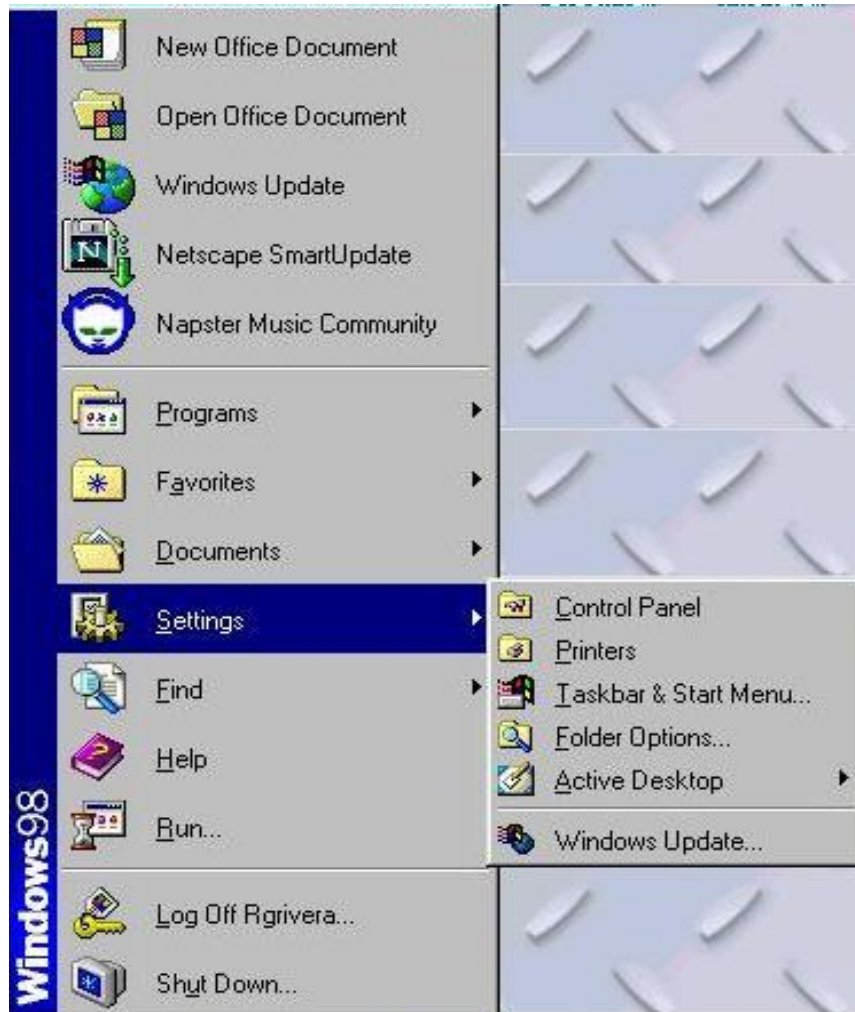

Figure 32
2. Click **Settings** and then click **Control Panel** (Figure 32).